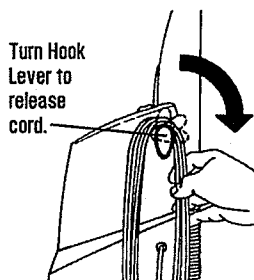

Figure 5b
3. When you are ready to release the cord, simply turn the Upper Cord Hook down and the Lower Hook up. (See Figure 5b.) The Cord will slip easily off the machine, with no tangles or twists.